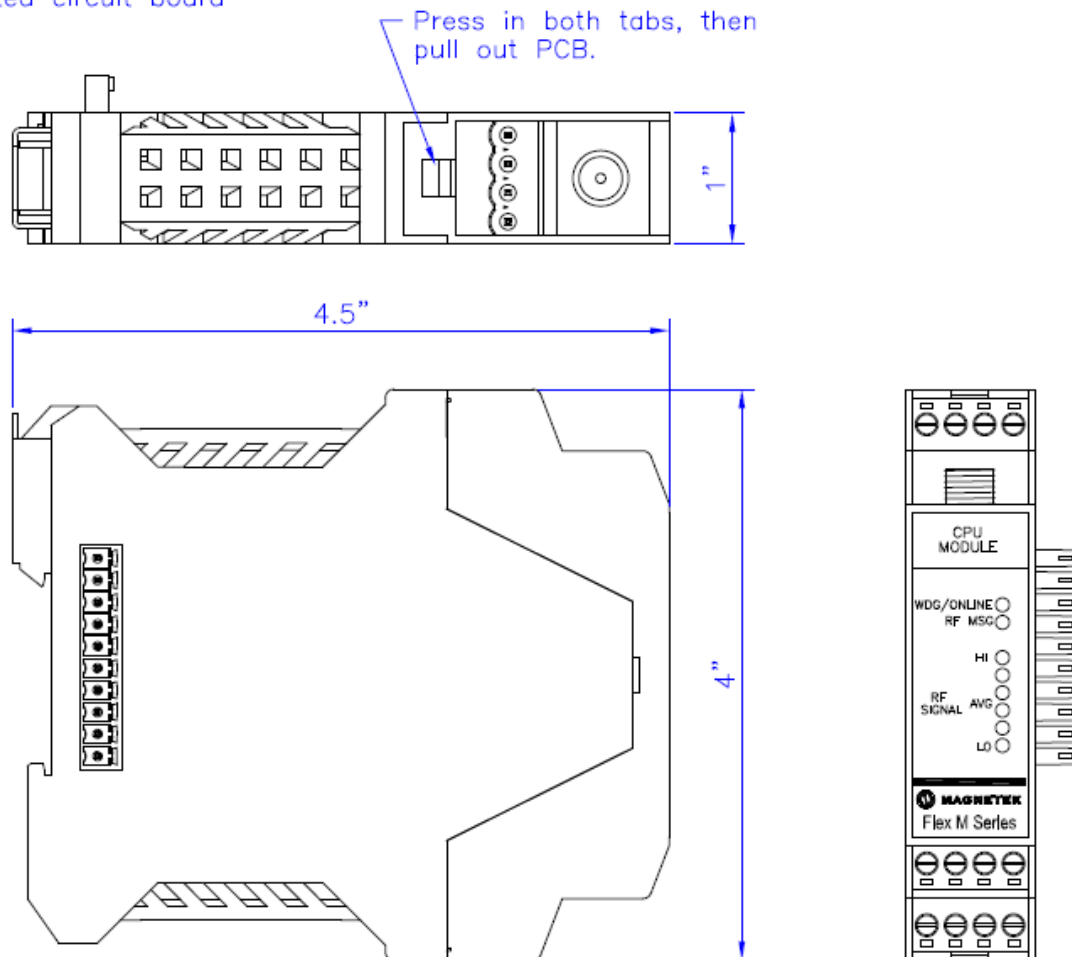

Figure 18: Flex M Housing Removal Detail
4. The PCB from any module can be removed from its housing by pressing in both tabs first (tabs are on the front and back sides of the housing); then the top housing and PCB can be removed from the lower housing (see Figure 18 for details).